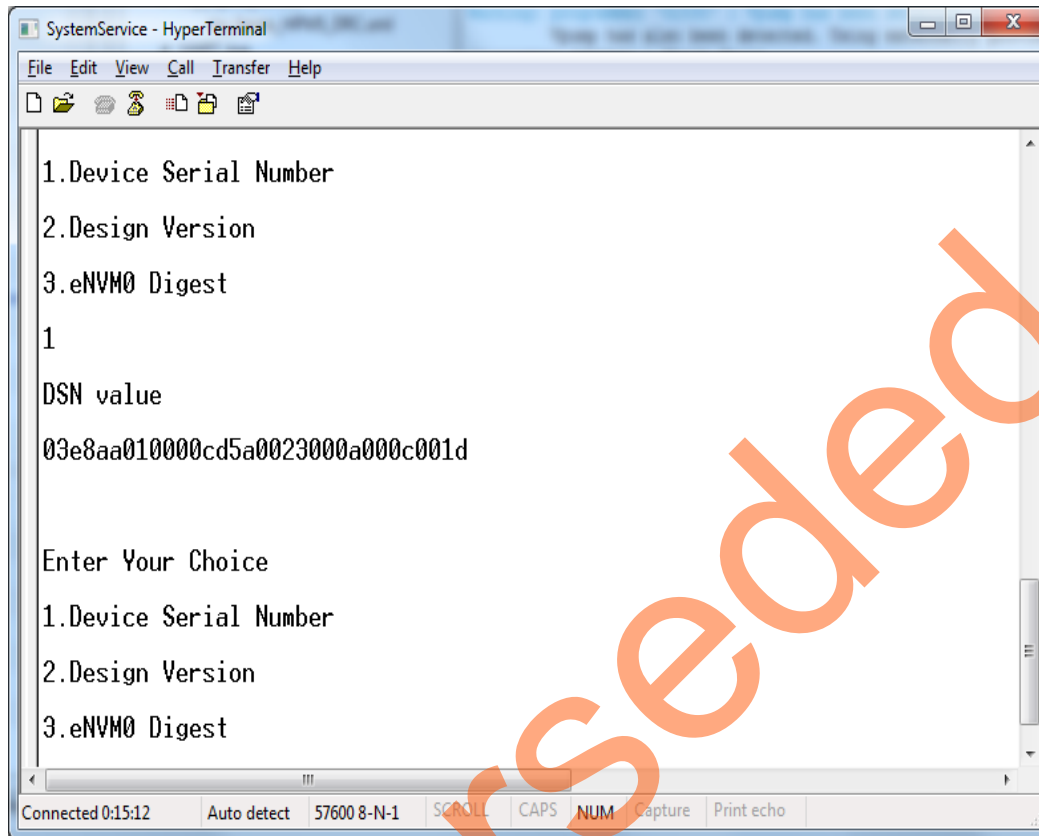

Figure 11 • Device Serial Number
5. Select option 1 to get DSN. Figure 11 shows the HyperTerminal displaying the DSN value.